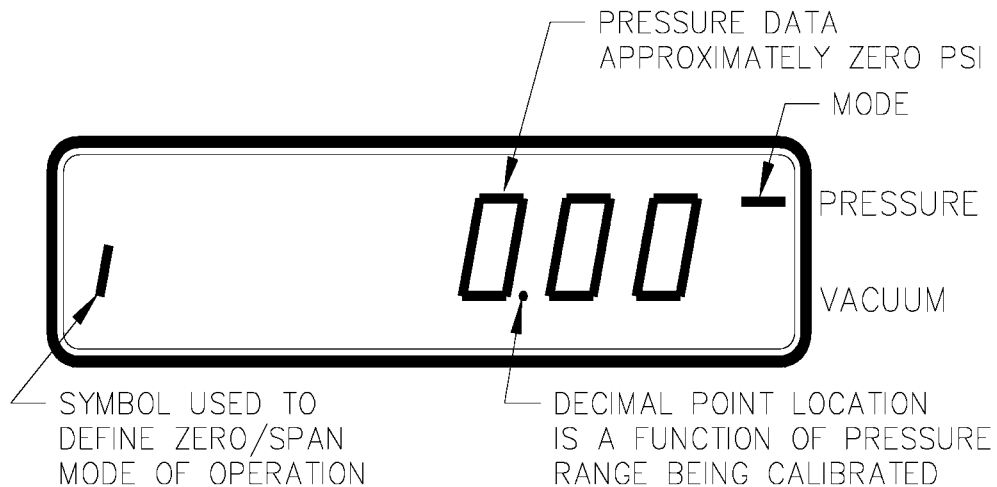

Figure 3-2. Zero/Span calibration for Gage-Only Units
In the calibrate mode, the UPC5100/UPC1010's numerical display is used to provide operator prompting symbols as well as displaying the various data formats. For example, in Figure 3-2, the data format shown is that obtained as soon as the ZERO/SPAN position of the rotary switch is selected.
Selecting the ZERO/SPAN position on the Condec Calibration Module (PN 60109) places the instrument into its ZERO/SPAN calibration mode. The display is shown in Figure 3-2.
1. Set the Condec Calibration Module (PN 60109) to the ZERO/SPAN position (see Figure 3-2 on page 10 for display reading).
4. Turn the DISPLAY SELECT switch (16) to the CURRENT position. Display will read *20.000*.